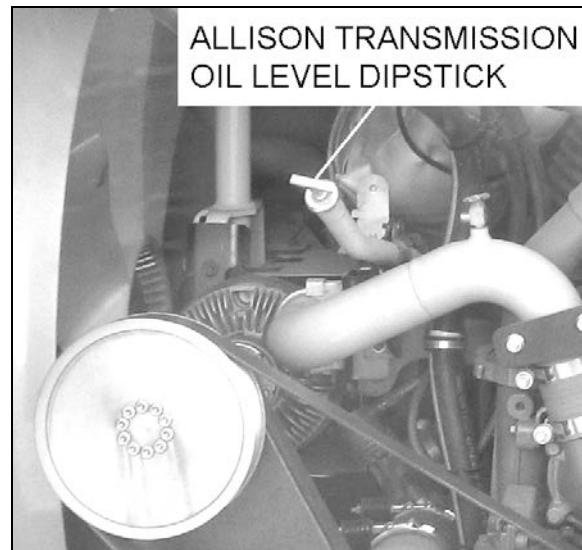

FIGURE 3: OIL LEVEL DIPSTICK (AUTO. TRANS.) 07113
To gain access to the dipstick, open the engine compartment rear doors; dipstick is located on the radiator side of the engine (Figure 3).
4. While the engine is running, remove the dipstick from the tube and wipe it clean (Figure 3). Insert the dipstick into the fill tube, pushing down until it stops.